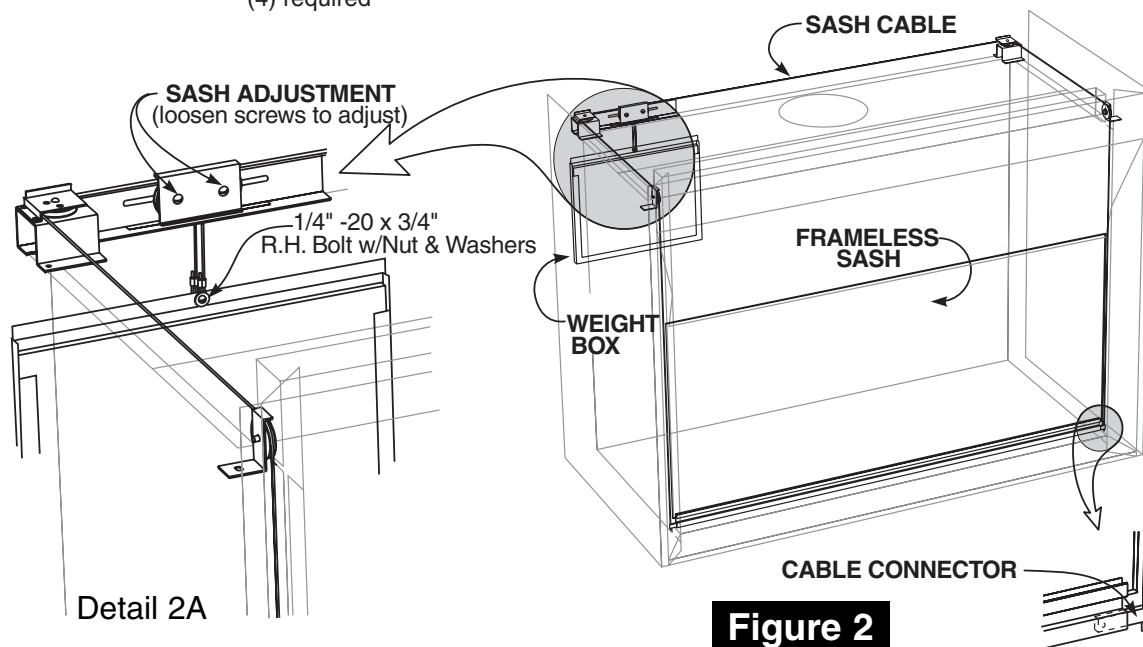

Figure 2
6. Check that **Sash Cables** are properly routed over front pulleys, around rear pulleys, and through the **Sash Adjustment** pulleys. (see Figure 2)
7. Attach **Weight Box** to cables using one (1) 1/4" -20 x 3/4" R.H. Bolt, Nylock Nut, and two (2) Flat Washers (bolt, nut, and washer shipped attached to cable ends).